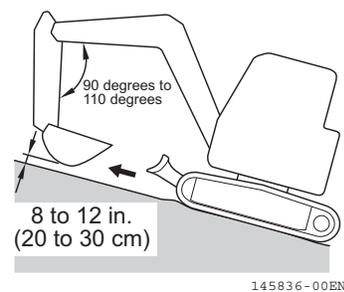

Fig. 3-46
2. When climbing a slope, drive the machine with the implement positioned as shown in the figure on **Fig. 3-46**.